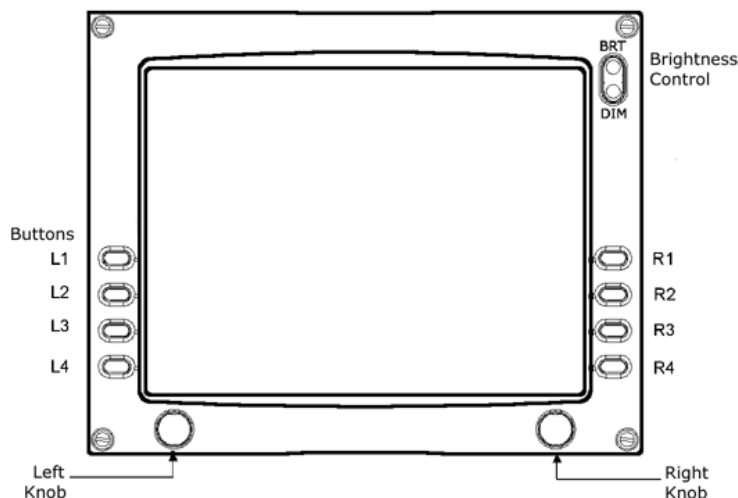

Figure 3: PFD Controls
2. Simultaneously press and hold the top left (*L1*) and third down (*L3*) buttons until the countdown timer in the lower left corner of the display indicates zero seconds (See Figure 3, PFD Controls).